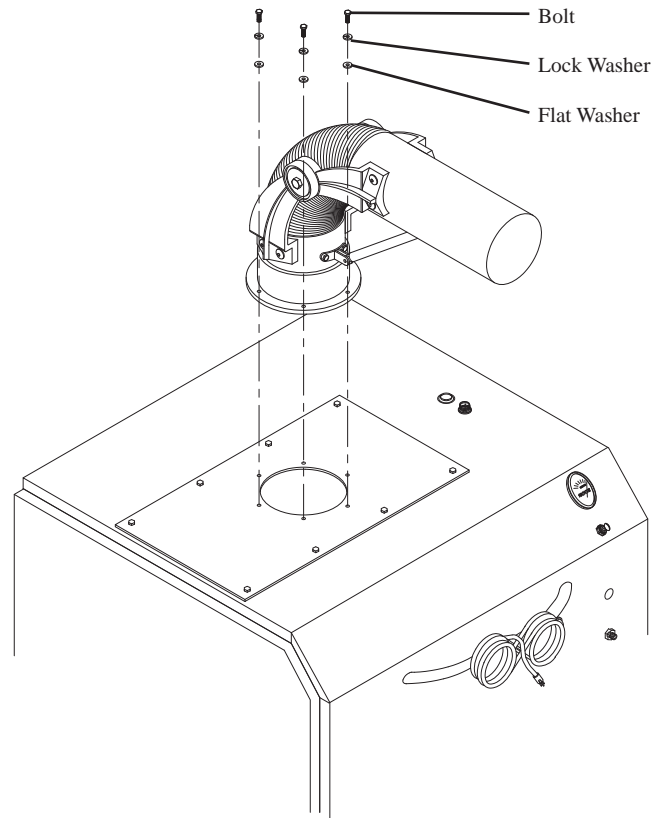

Fig. 1A
4. Install the arm assembly onto the base unit (Fig. 1A).